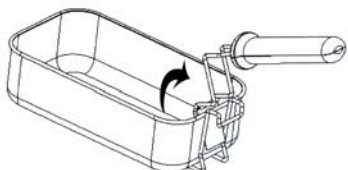

Fig. 3
4. Attach the fryer basket handle to the fryer basket by squeezing the handle bars together and inserting them into the metal bracket on the basket. Make sure that the end of the bars are inserted into the bracket holes. Lift the handle up to lock in place. (Fig. 3)